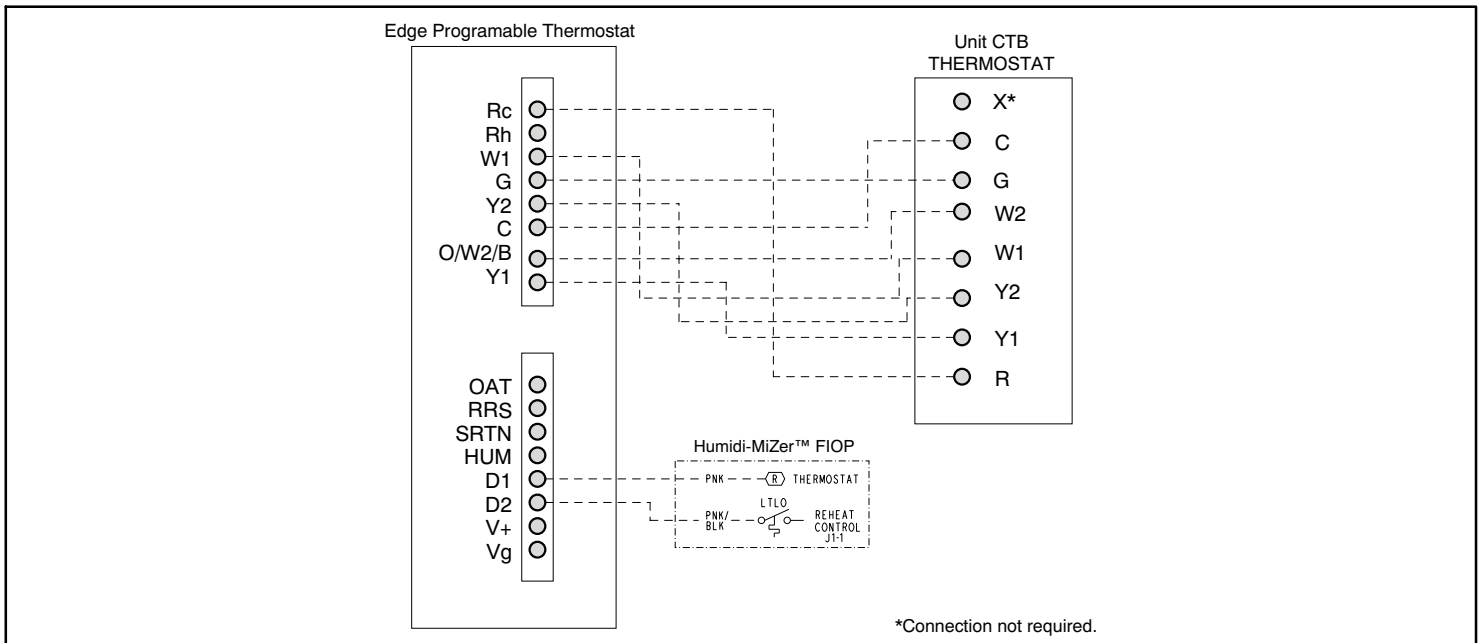

FIGURE 35 – Typical Rooftop Unit with Hot Gas ReHeat Adaptive Dehumidification System
3. The Thermidistat has dry contacts at terminals D1 and D2 for dehumidification operation (see FIGURE 35). The dry contacts must be wired between CTB terminal R and the PNK/BLK lead to the LTLO switch with field-supplied wire nuts. Refer to the installation instructions included with the Thermidistat device (Literature No. 50901350201, or later) for more information.